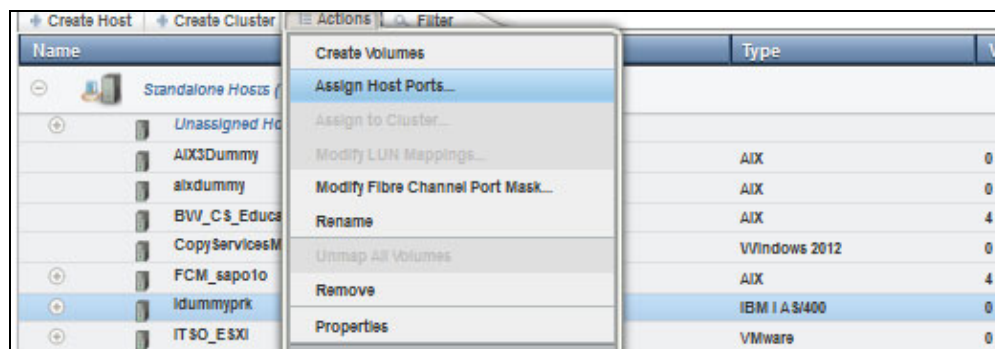

Figure 11-76 Assign Host Ports
1. From the Hosts window, select the host to which to assign the host port. Either right-click, or from the **Actions** tab, select **Assign Host Port**, as shown in Figure 11-76.